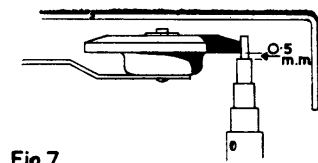
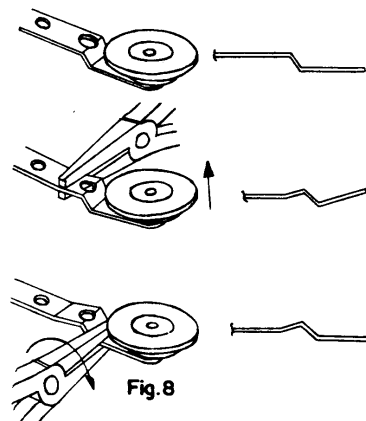

Fig. 7
Fig. 8
- (c) The idler wheel should be 90° with respect to the turntable rim and motor pulley. In addition, the edges of the idler wheel should be at least 0.5 mm. from the adjacent speed steps of the spindle as shown in Fig. 7. Fig. 8 shows how the idler wheel bracket can be adjusted if the idler wheel is placed too low on the pulley. The bend must be made in the opposite direction if the position of the pulley is too high.